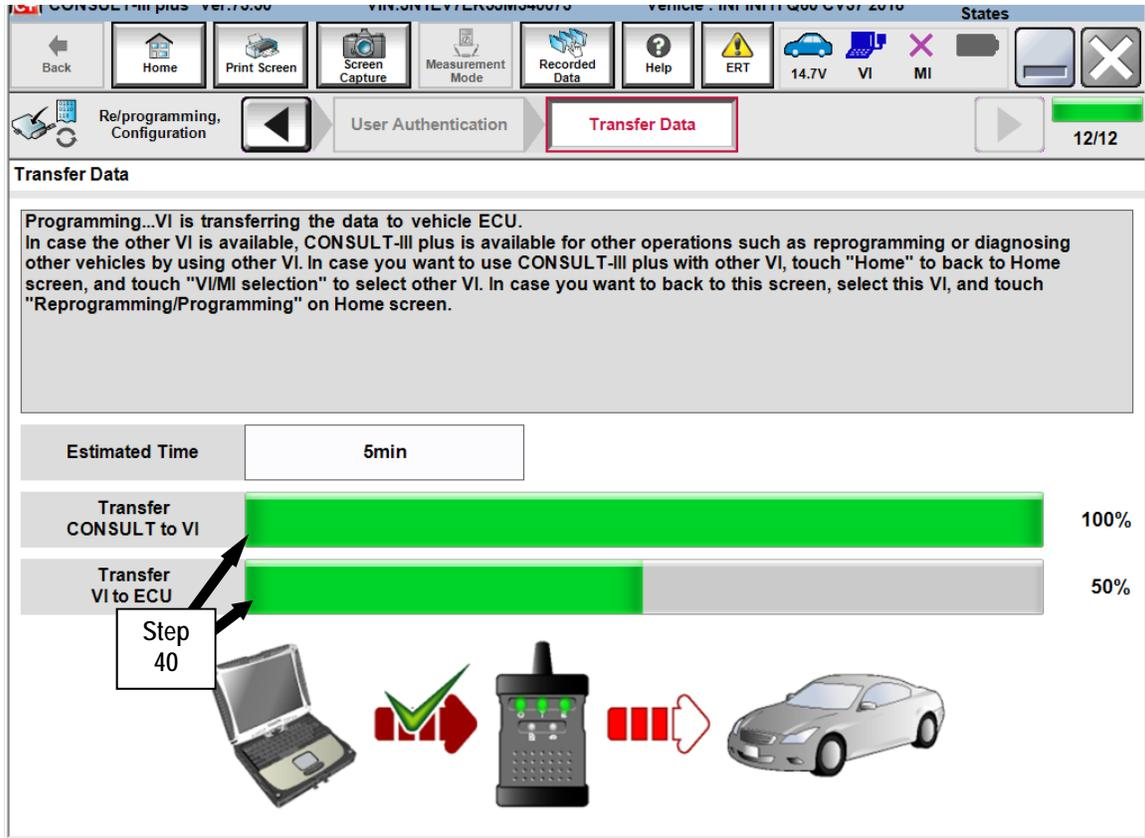

Figure 23
- Once authentication completes, power steering control module reprogramming will automatically begin and the screen in Figure 23 on the next page will be displayed.